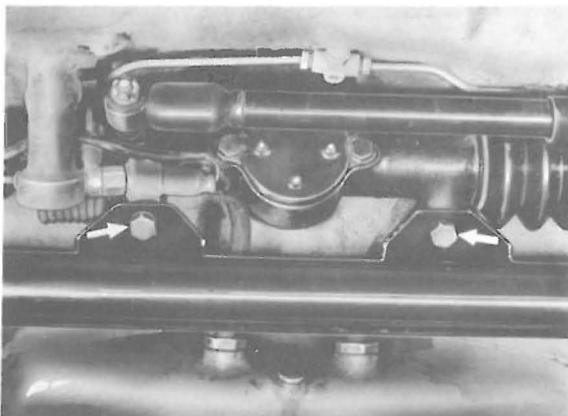

Fig. 71
4. Using new lockwashers, install and torque steering housing retaining bolts to 4, 7 mkp (34 lb/ft). See Fig. 71.